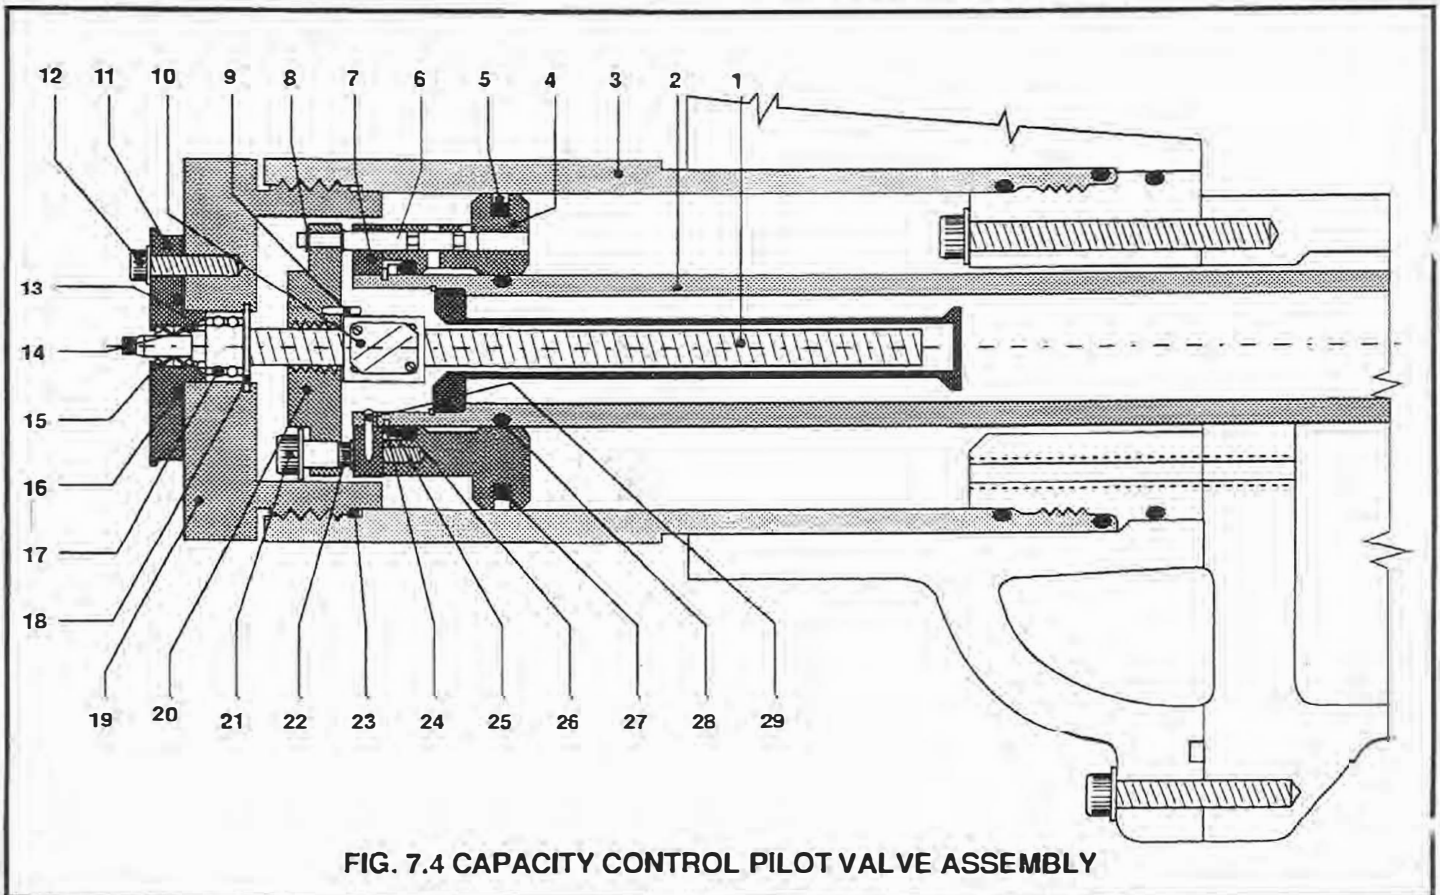

FIG. 7.4 CAPACITY CONTROL PILOT VALVE ASSEMBLY
7.7 CAPACITY CONTROL SHAFT SEAL SERVICING (refer to figure 7.4)
- b) Smear thread sealer on the outside diameters of the seals to prevent leakage. Be sure to place the seals back to back as shown in figure 7.4 so they will seal against either a positive pressure or a vacuum. Press the new seals into the seal holder using care not to deform or bend the seals.
- d) Replace the O-ring (16) in the seal holder groove.
- f) Tighten the three cap screws (12).
7.8 CAPACITY CONTROL PILOT VALVE ASSEMBLY (refer to figure 7.4 on previous page)
b) Check that the capacity control valve has returned to the minimum or fully unloaded position on shut down by examining the indicator plate on the end of the electric valve actuator. This moves the pilot valve assembly away from the end cover (19), which is a requirement for step j) below.